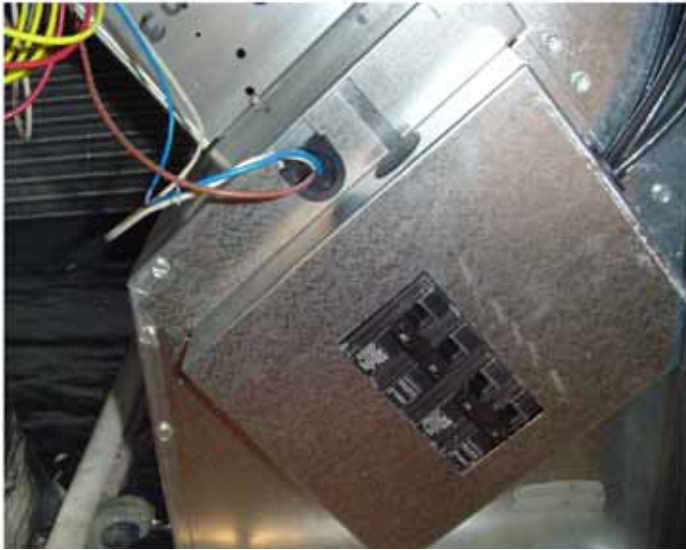

FIGURE 9
- Install rear mounting plate with the two (2) screws removed in step 6.
15. Install the cover with the two (2) screws removed in step 4, routing the line voltage wires through the rubber grommet as shown in Figure 9.